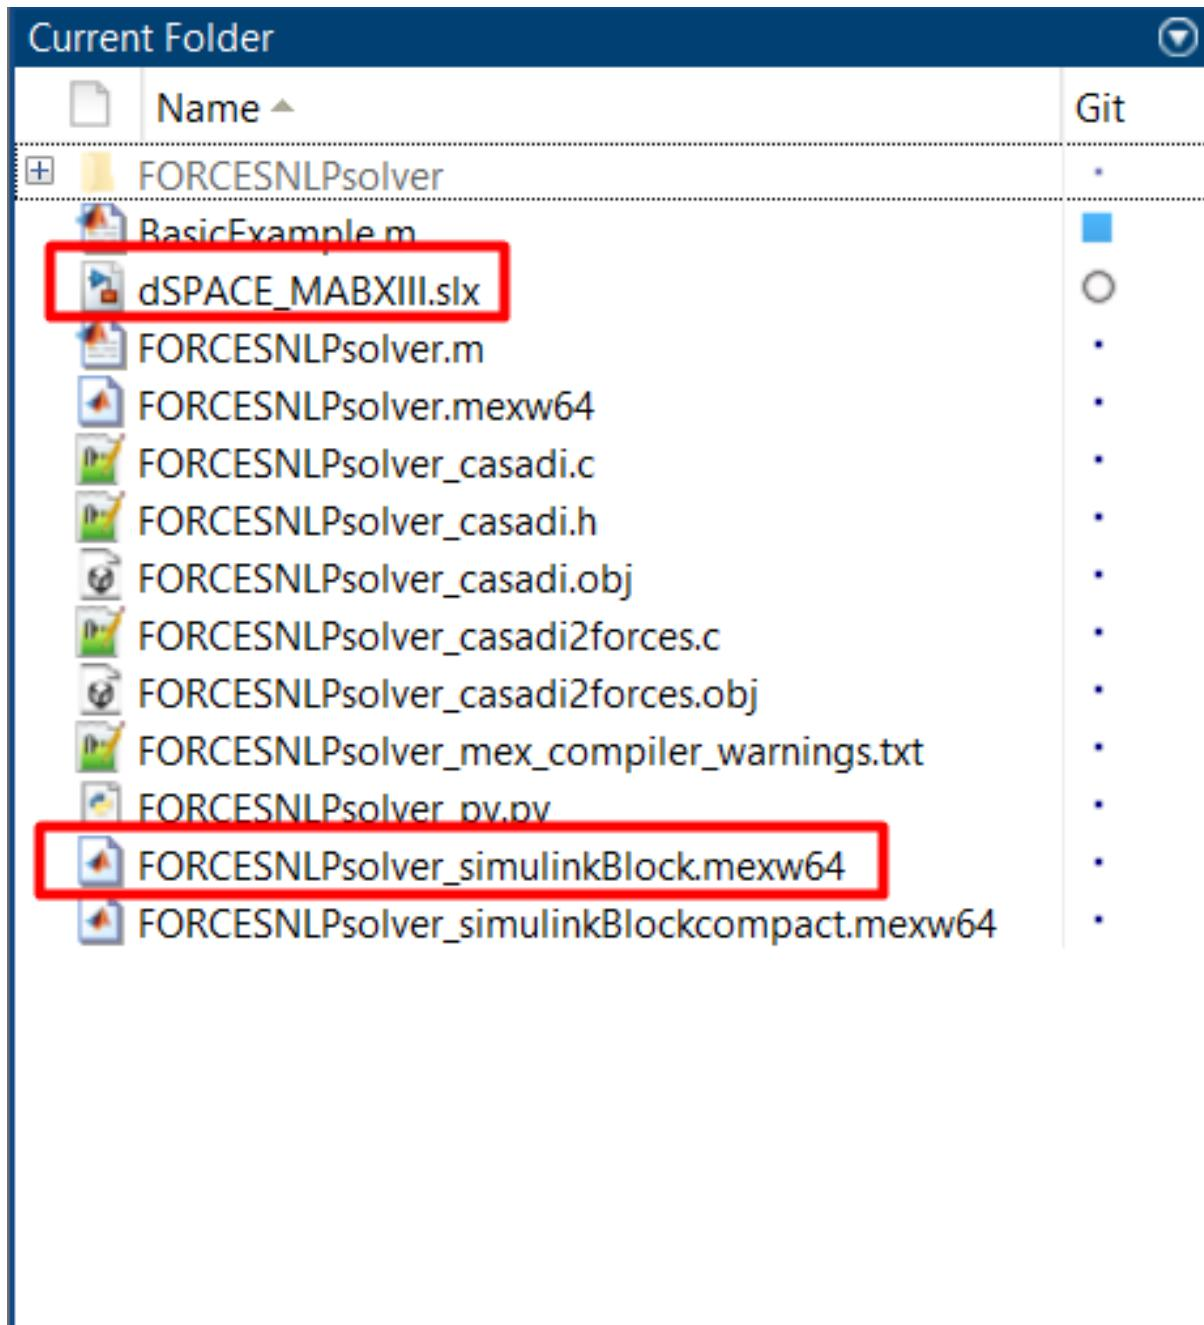

Figure 13.61: The .<mex_extension> solver file is in the same path as the model.
- 5) The `FORCESNLPsolver_simulinkBlock.<mex_extension>` file (created during code generation) needs to be in the same path as your model (see Figure 13.61).